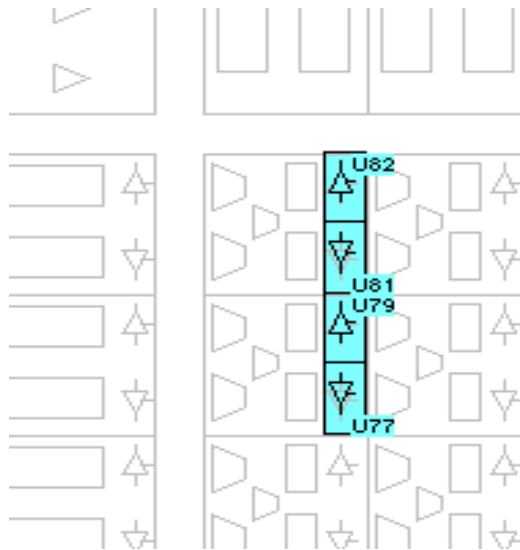

Figure 4-19 Placing BUFTs in the Floorplan Window
10. Continue placing BUFTs U81, U79, and U77 in the same column directly beneath U82, as shown in Figure 4-19.